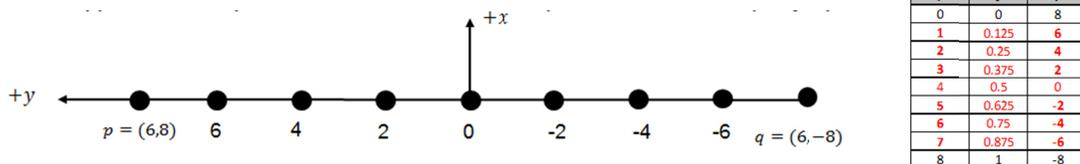

Figure 1C: 7 way points to characterize the line between start (6,8) studs and (6,-8) studs
The program `x1320-line1_0.nxc` shown in **Figure 1B** contains `main` and calls these functions. To demonstrate this program, 7 way points will be used as shown in **Figure 1C** (left). (1) and (2) should calculate the locations of these way points as given in **Figure 1C** (right)